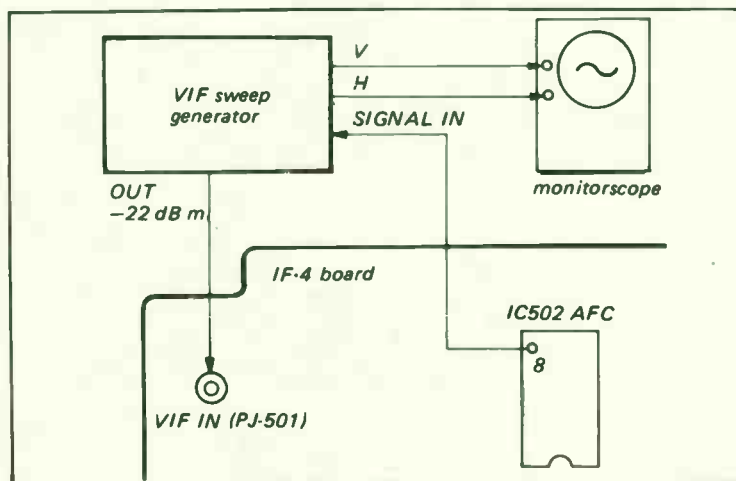

Fig. 6-25. Waveform adjustment for AFC.
- 3—Change the test setup to the one shown in Fig. 6-25.
11—Change the test setup to that shown in Fig. 6-25. Set the VIF sweep generator output to -22 dBm.